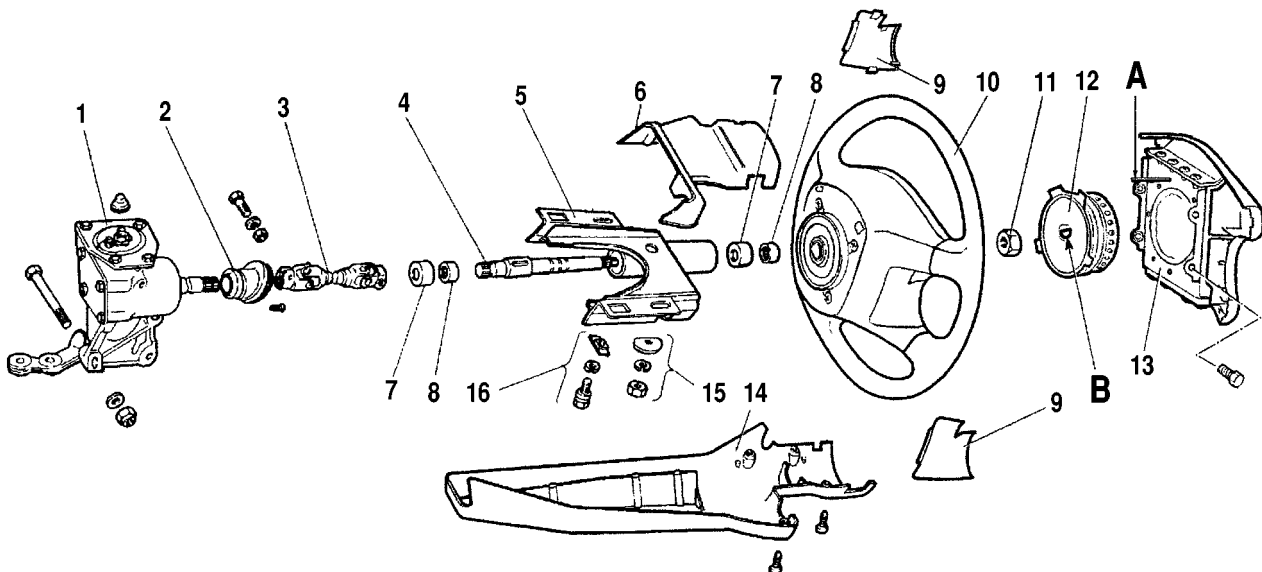
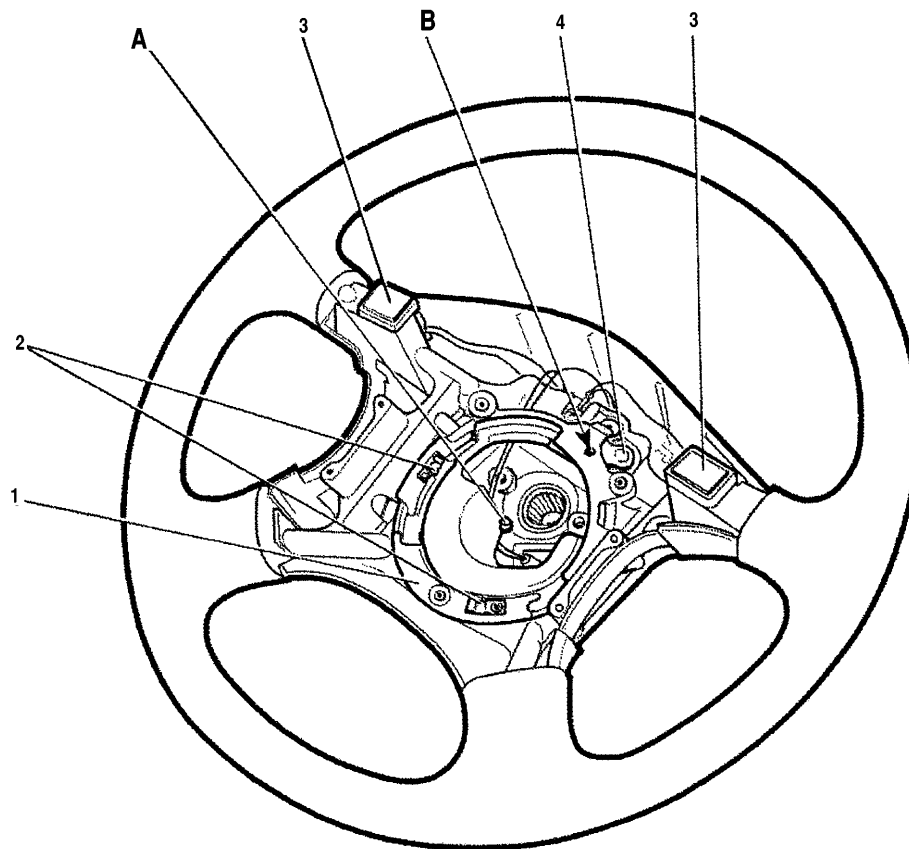

Fig.9-38. Steering components:
Fig.9-39. Steering wheel:
- remove two caps 9 (Fig.9-38) from the steering wheel side trim;
- using a screwdriver, retract spring-type locking tab 4 (Fig.9-39), then turn inflator unit 12 (Fig.9-38) anticlockwise to align its base with recesses in steering wheel adapter 1 (Fig.9-39);
- undo nut 11 (Fig.9-38) and remove the steering wheel. Refer to chapter 5 of Repair Manual for further dismantling of steering-associated parts and units.
- before refitting the steering wheel, make sure the unit «A» (Fig.9-39) for putting the system in the ready-to-work position (D-shaped projection in the centre of the steering wheel adapter) is not bent or broken, otherwise renew the steering wheel;
- fit the gas generator to the steering wheel adapter with your right hand. Position the gas generator in the adapter recesses and turn clockwise about 40° to the full lock. A click should be heard, the hole in locking tab 4 (Fig.9-39) should coincide with the
- working from the outside of the vehicle, place the airbag module to the gas generator unit, while matching the «A» fixture (Fig.9-38) on the module with the hole «B» (Fig.9-39) in the steering wheel adapter;
- tighten airbag module 13 securing bolts (Fig.9-38) to 7-11 N•m;